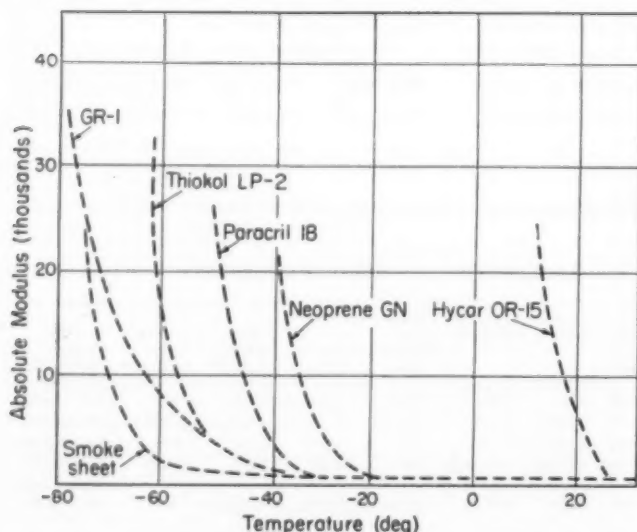

Fig. 3—Low temperature properties for various rubbers measured in terms of absolute modulus
**Low Temperature Properties:** In view of the importance of low temperature performance of adhesives and sealers, the information in Fig. 3 is most pertinent. One of the most satisfactory ways of measuring low temperature properties of rubbers has been found to be in terms of modulus. This represents a measurement of strain resulting from an applied stress, or the distortion resulting from an applied load. To obtain the data for this graph, dumbbell shaped samples of the elastomer were subjected to an angular torque with the load and angle of deflection